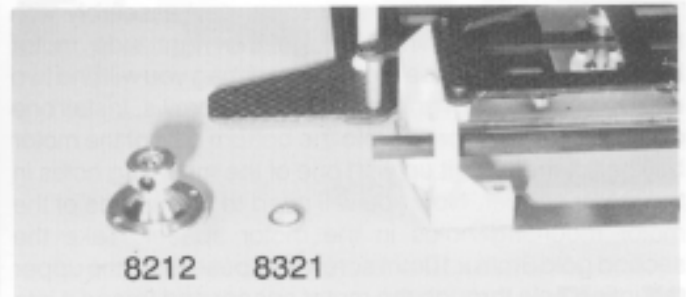
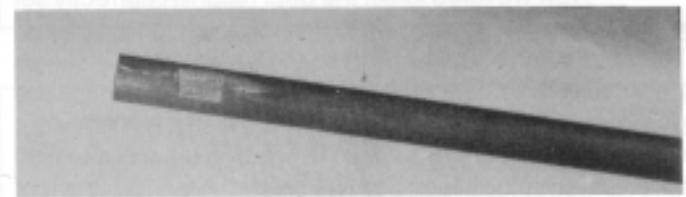

Fig. 69
Fig. 70
□ **Figs. 69, 70 & 70A** (1) A small portion of the graphite axle will be extending out the left hand side of the rear pod assembly. Install the second #8321 rear axle spacer onto this portion of the rear axle. Make sure the stepped side of the spacer is facing the bearing in the bulkhead. (2) Back in bag 7 you will find the #8212 left wheel hub and its 10-32 x 3/16" set screw. Thread the set screw into the left wheel hub (fig. 69) and then (3) slide the hub onto the graphite axle (fig. 70). We want to tighten the set screw just lightly enough to make a mark on the graphite axle so we can just see it. (4) Now remove the left
wheel hub. (5) File a flat spot on the axle, where the mark is, for the set screw (fig. 70). This will help if you need to remove the axle again. This way the mark will be below the surface of the axle so it will allow the hub to come off easily. The flat spot also helps keep the set screw from trying to rotate around the axle—which would damage and weaken the graphite rear axle. (6) Now reinstall the #8212 left wheel hub.
(7) We need to set the end play on the rear axle to .004" to .005" (about the thickness of a piece of paper). Slide a piece of paper between the wheel hub and the rear axle spacer (make sure the set screw is correctly aligned with the flat spot on the axle). (8) Tighten down the set screw and then recheck the end play. Your installed axle assembly should look like this.